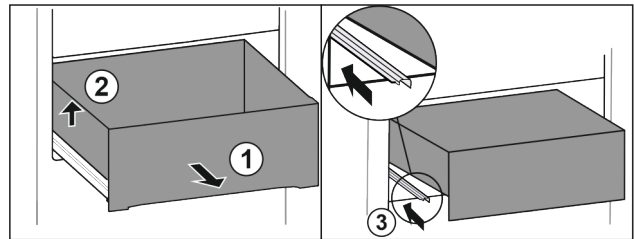

Fig. 20
- ▶ Pull out drawer as far as it will go. Fig. 20 (1)
- ▶ Lift drawer on the left. Fig. 20 (2)
- ▶ Slide in left rail. Fig. 20 (3)